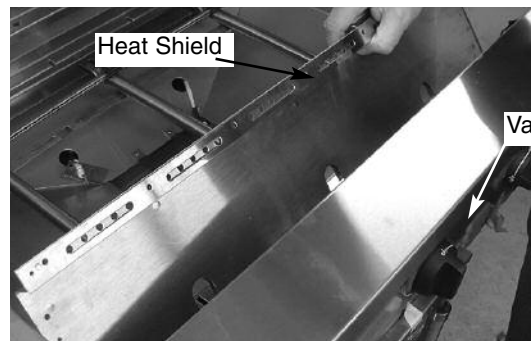

Fig 8
8. Push the front heat shield towards the rear of the grill. (See Fig. 8)